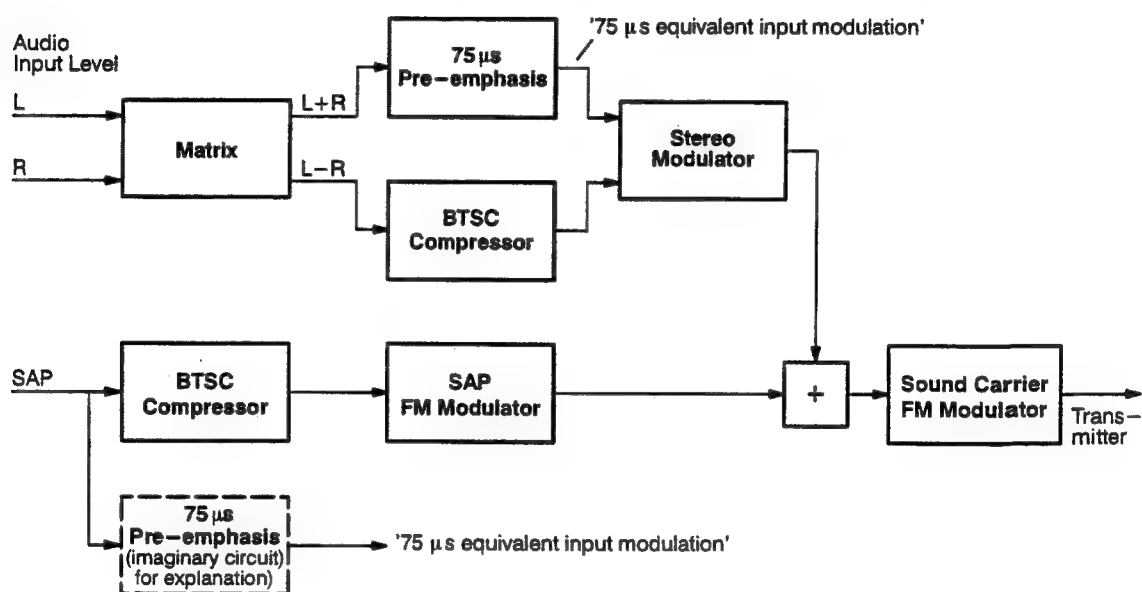

Fig. 2 Simplified Diagram of a BTSC Transmitter System
The broadband baseband spectrum is transmitted via frequency modulation on the sound carrier (4.5 MHz). Due to the parabolic noise characteristic, which is typical for FM transmission systems, the noise level increases for higher frequencies. To improve the Signal-to-Noise Ratio of the L-R signal and the SAP signal, both channels are encoded by the BTSC Compressor; see Figure 2.
Figure 2 shows a simplified diagram of a BTSC transmitter system. The BTSC modulation standards and the maximum allowed peak deviations are shown on the next page.
- The maximum allowed audio input level of 100 % modulation (100 %  $\triangleq$  0 dB) is frequency dependent due to the 75  $\mu$ s pre-emphasis; see Figure 2.
This is used as a reference and determines the modulation level that would occur for the equivalent Mono signal processed via a 75  $\mu$ s pre-emphasis; see Figure 2.